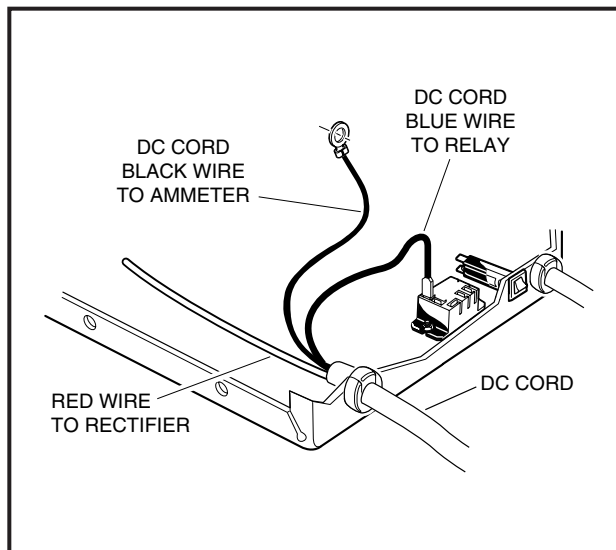

FIGURE 19-15
3. Attach the blue lead of the new cord set to the charger relay (coil) terminal (**Figure 19-15**).